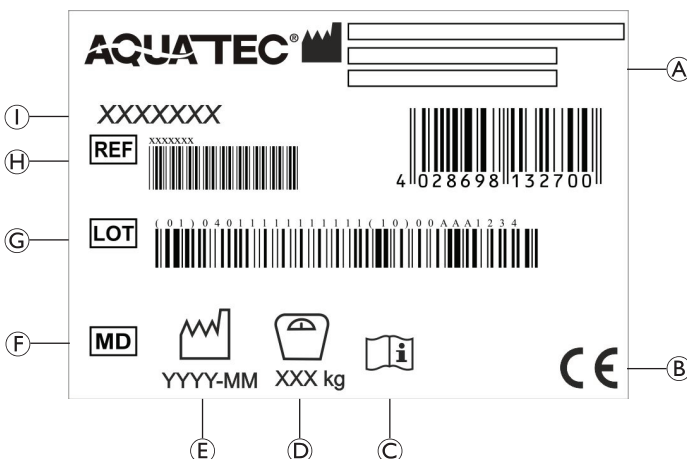

Fig. 15
6.2 Labels and Symbols on the Product (Fig. 15)